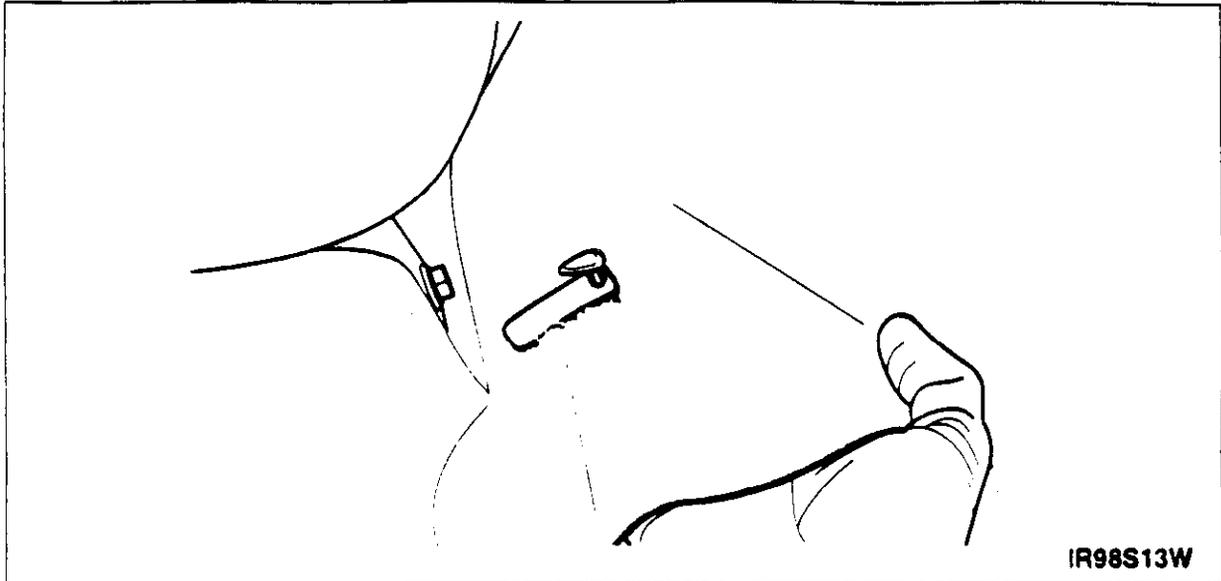

FIGURE 28
17. Slide hand under carpet, then secure upper and lower portions of clip together. See Figure 28.